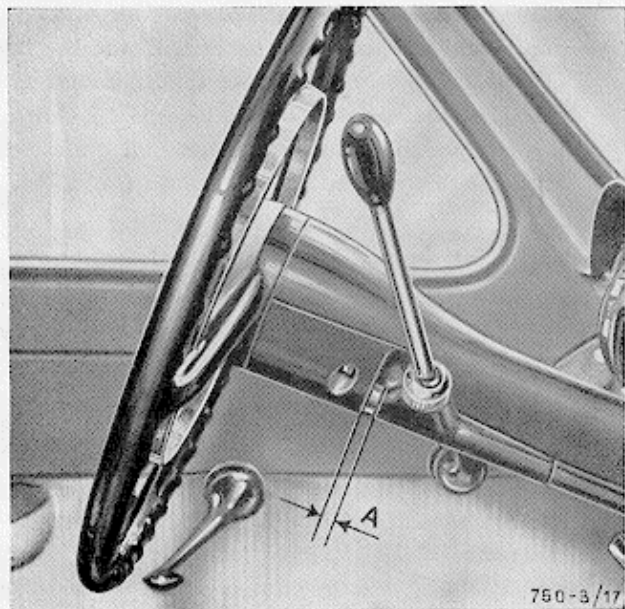

Fig. 17 Gear lever in correct position for engaging 1st and 2nd speeds
- a) When the gear-lever **1** (Fig. 16) is moved, the actuating rod **2** should be able to move a further distance $A = 3$ mm. approximately (Fig. 17) after the 1st or the 2nd speeds have been engaged, before making contact with the edge of the steering column bracket. If this extra play is not available, adjust the length of the flexible control cable by turning the nuts **3** (Fig. 16) which position the threaded end of flexible control itself.